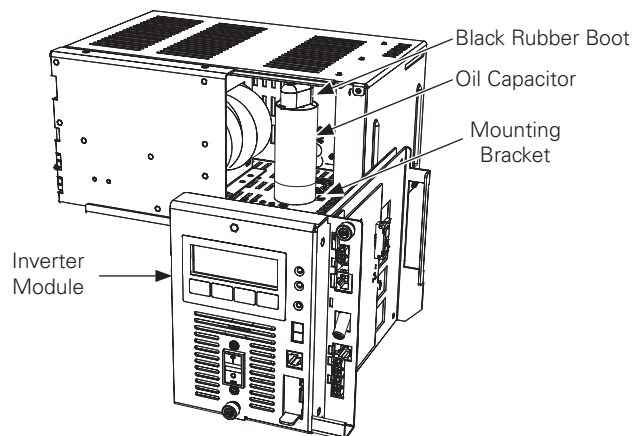

Fig. 1, Removing Inverter Module
2. Remove Inverter Module and locate the oil capacitor (**Fig. 1**).